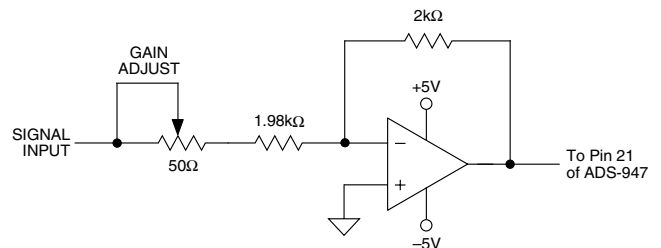

Figure 2. Optional ADS-947 Gain Adjust Calibration Circuit
- The ADS-947 achieves its specified accuracies without the need for external calibration. If required, the device's small initial offset and gain errors can be reduced to zero using the adjustment circuitry shown in Figures 2 and 3.
Any offset and/or gain calibration procedures should not be implemented until devices are fully warmed up. To avoid interaction, offset must be adjusted before gain. The ranges of adjustment for the circuits in Figures 2 and 3 are guaranteed to compensate for the ADS-947's initial accuracy errors and may not be able to compensate for additional system errors.